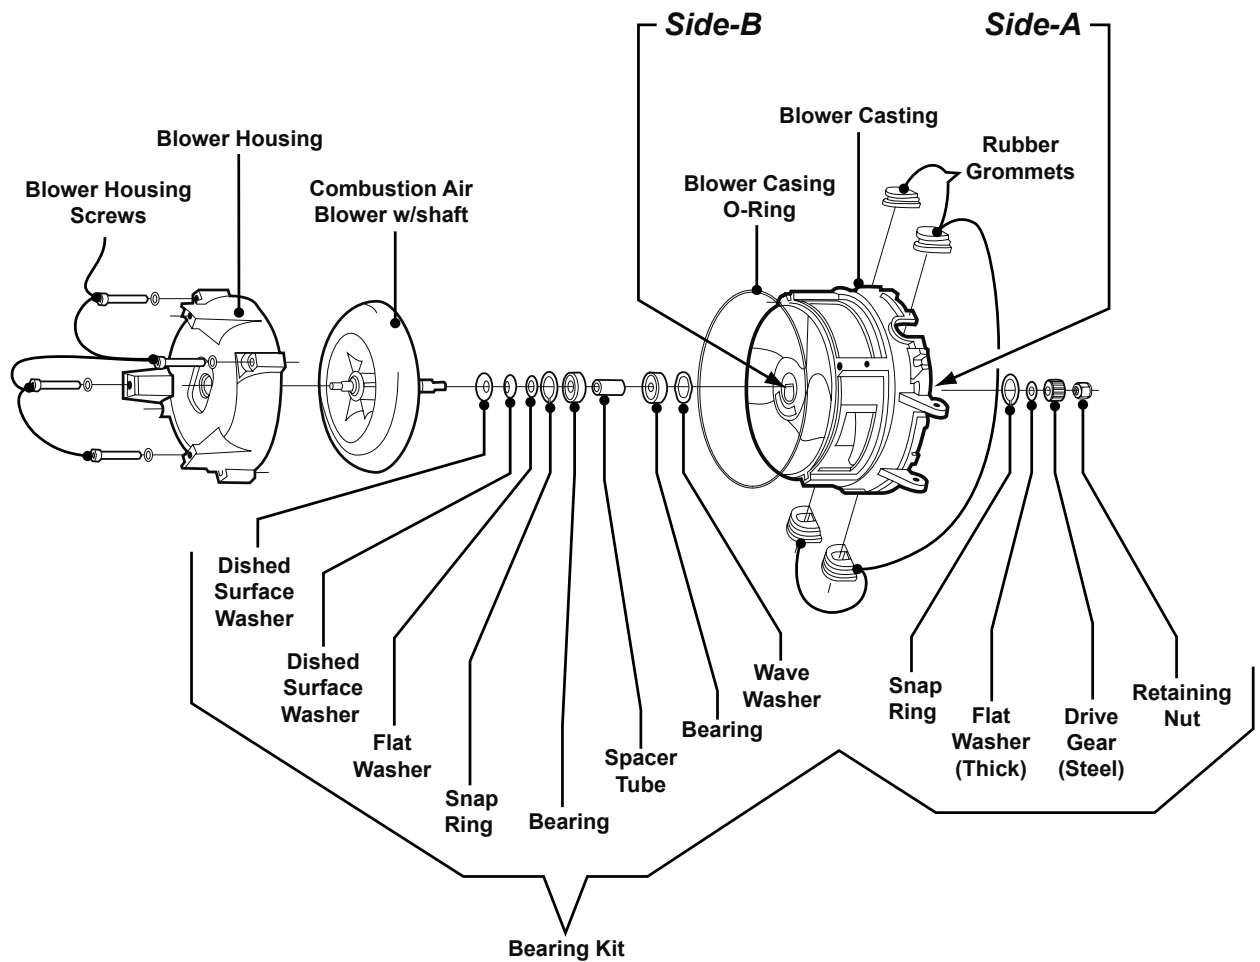

Figure 23
6. Remove the four *Blower Housing Screws*, which secure the *Blower Housing* to the *Blower Casting*; reference Figure 23. Remove the *Blower Housing* to expose the *Combustion Air Blower*; reference Figure 23.
NOTE: Be sure to observe the placement of the three *Washers* of the Bearing Kit illustrated in Figure 23. To ensure proper tension, the same order and direction of the dished surfaces of the *Washers* must be followed when reassembling.
8. With a pair of Snap-Ring pliers, remove the *Snap Rings* from both Side-A and Side-B of the *Blower Casting*; reference Figure 23. Push all the contents of the Bearing Kit out of the *Blower Casting*'s bore/bearing cavity. Discard the *Retaining Nut*, steel *Drive Gear*, *Snap Rings*, *Bearings*, *Spacer Tube*, and *Washers*, as replacements are provided in the new Bearing Kit.
9. Install a new *Snap Ring* into Side-A of the *Blower Casting*; reference Figure 23. Once the Snap Ring is in place, insert the remaining contents of the new Bearing Kit into Side-B of the *Blower Casting* starting with the *Wave Washer*, as illustrated in Figure 23. Secure the Bearing Kit assembly in place with the remaining *Snap Ring* (Side-B).
- A:** Prior to installation, reference Figure 23 for the exact placement of the three *Washers*, which slide over the threaded end of the Combustion Air Blower's shaft. Failure to follow the correct order and direction of the dished surfaces on the *Washers* will result in a restricted rotation of the *Combustion Air Blower*.
through the Bearing Kit assembly until the threaded portion appears on Side-A of the *Blower Casting*; reference Figure 23. Place the new thick flat *Washer* and steel *Drive Gear* on the threaded end of the Combustion Air Blower's shaft. Thread the new *Retaining Nut* on the Combustion Air Blower's shaft until it is finger tight (**DO NOT TIGHTEN**).